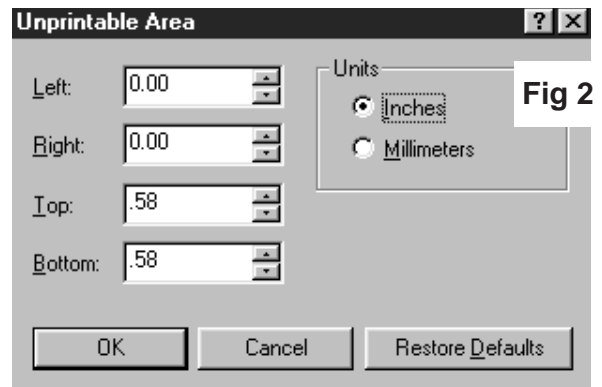

Fig 2
3. **Click Unprintable Area and set to zero left and right and .58 top and bottom.** (Fig 2)